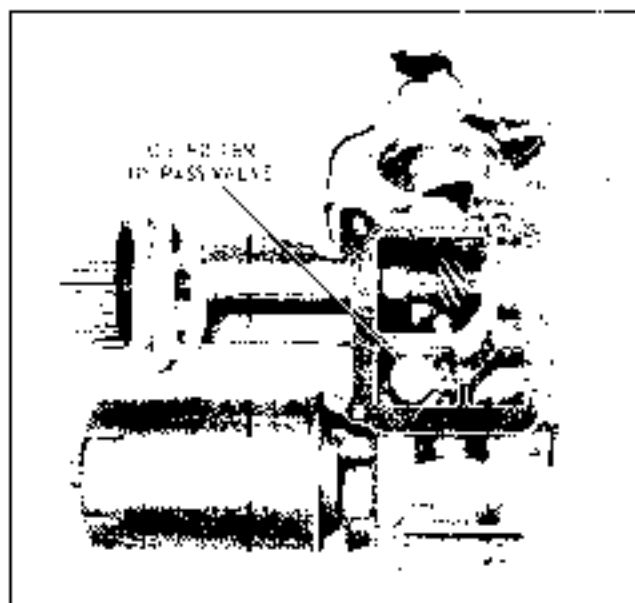

Fig. 6-39 Oil Filter Bypass Valve
2. Remove by-pass valve retaining screw (Fig. 6-39).